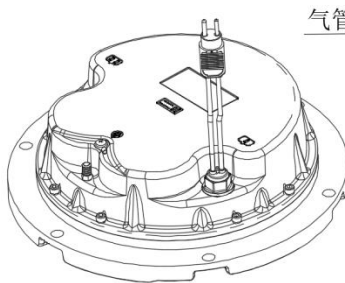

Figure 4-20
- Unscrew the valve cap at the lighting fixture bottom (see Figure 4-20).